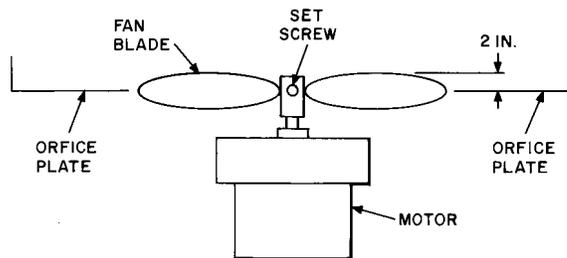

Fig. 5—Condenser Fan Positioning
2.12 Condenser Fan: The condenser fan (Fig. 5) adjustments are made in the same manner as described previously for the evaporator fan.